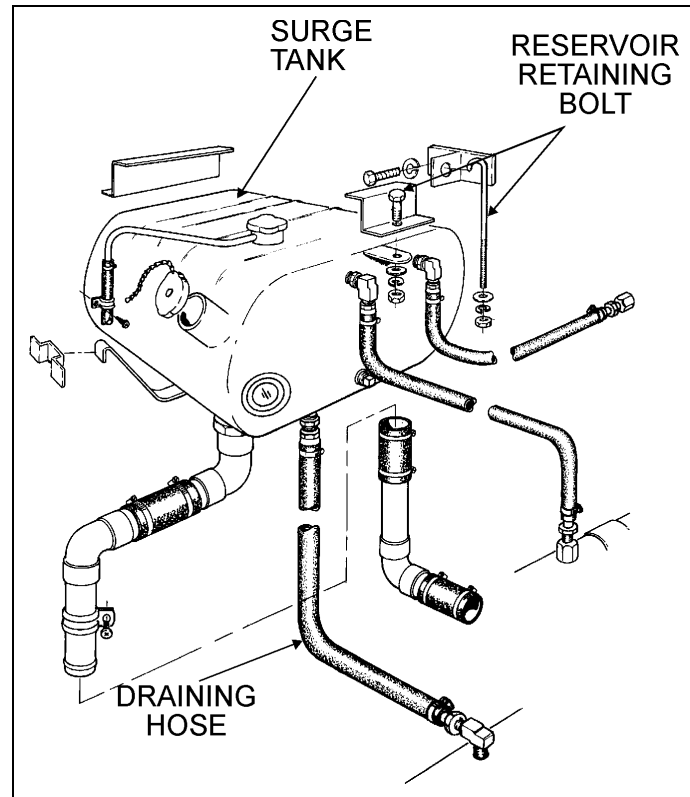

FIGURE 1: SURGE TANK
1. Disconnect surge tank draining hose (Fig. 1).
5. Remove surge tank retaining bolt (Fig. 1). Remove surge tank from motor compartment.